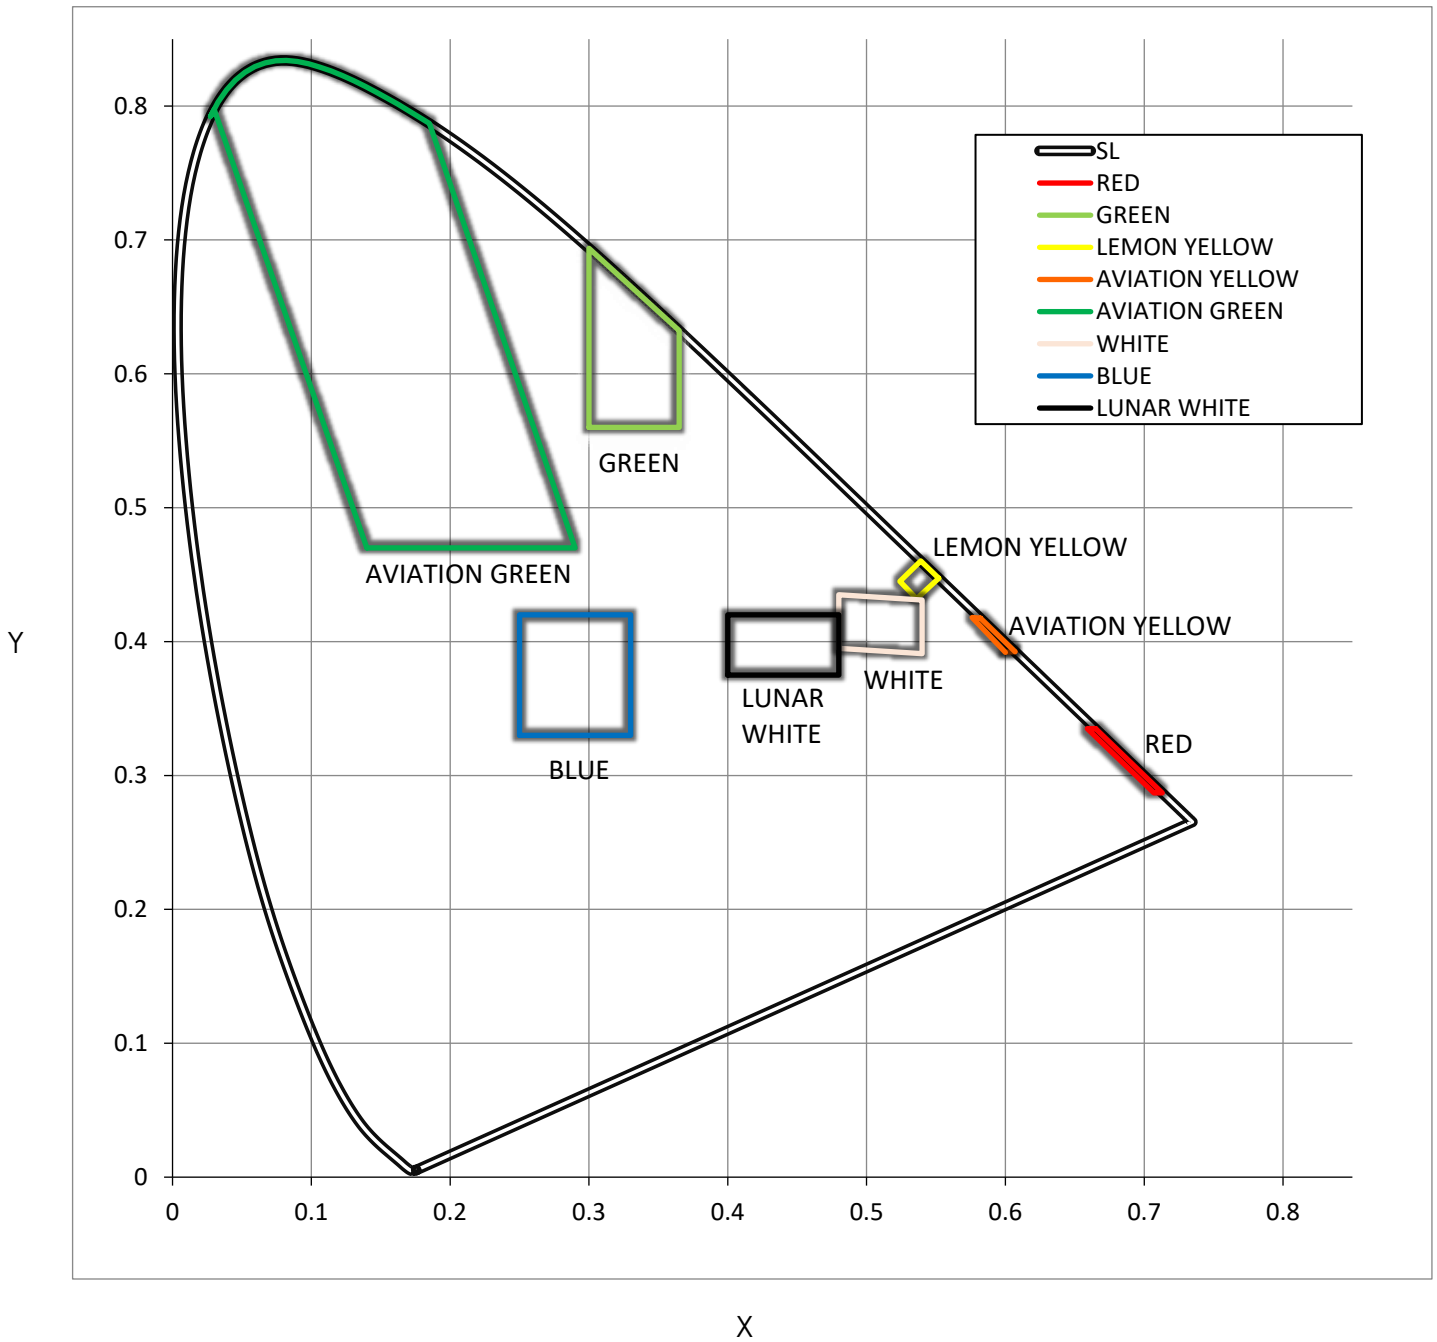

Figure 44: Incandescent Color – CIE 1931 Chromaticity Diagram
3. Color, Series 90 Code, see Figure 44: Incandescent Color – CIE 1931 Chromaticity Diagram and Figure 46: High Brightness LED Colors – CIE 1931 Chromaticity Diagram.
The illuminated colors of displays shall be built in accordance with MIL-PRF-22885 for incandescent configurations, Multi-chip LED configurations, and for Multi-chip LED configurations, per MIL-L-85762, and MIL-STD-3009 for all NVIS-compatible configurations. Figure 44: Incandescent Color – CIE 1931 Chromaticity Diagram shows the standard colors for incandescent versions of the Series 90 plotted on the CIE 1931 Chromaticity Diagram.